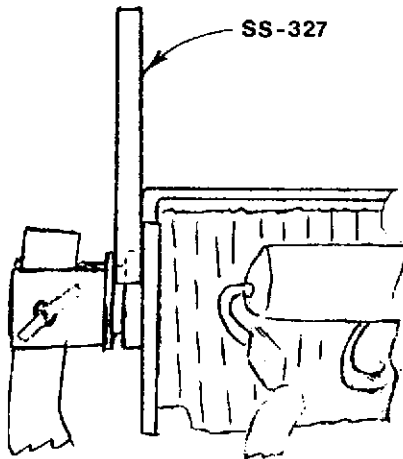

Figure 3-41. SETTING SOLENOID STROKE
- a. Reverse, Project and Rewind solenoid (S0-1). Insert SS-327 in solenoid armature mechanism (Fig. 3-41) to shorten stroke 0.050". When armature is held in and clutch actuator paddle is eyeball vertical, tighten solenoid mounting screws. At this time, clutch will be slightly engaged - you should feel drag when rewind spring belt is pulled. (See Fig. 3-41).